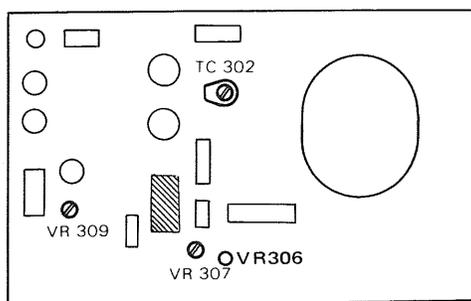

Fig. 39.
1. Adjustment of low power voltage (Fig. 39).
2. Adjustment of high power voltage (Fig. 39).
3. Intensity adjustment (Fig. 39).
4. Blanking voltage adjustment (Fig. 39).